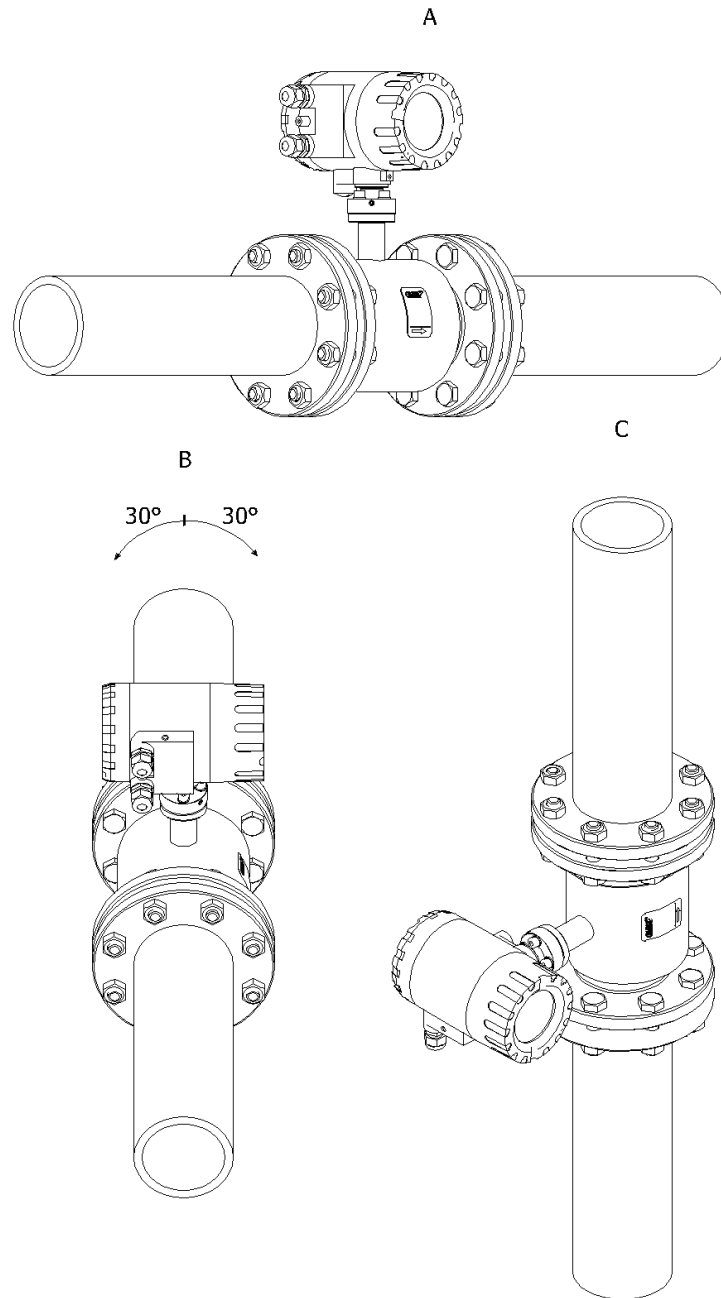

Figure 6. Installation of the PEM-1000 flowmeter - examples
- The flowmeter should be installed in the way that the electrode axis is as horizontal as possible, in accordance with the examples → Figure 6. Installation of the PEM-1000 flowmeter - examples.